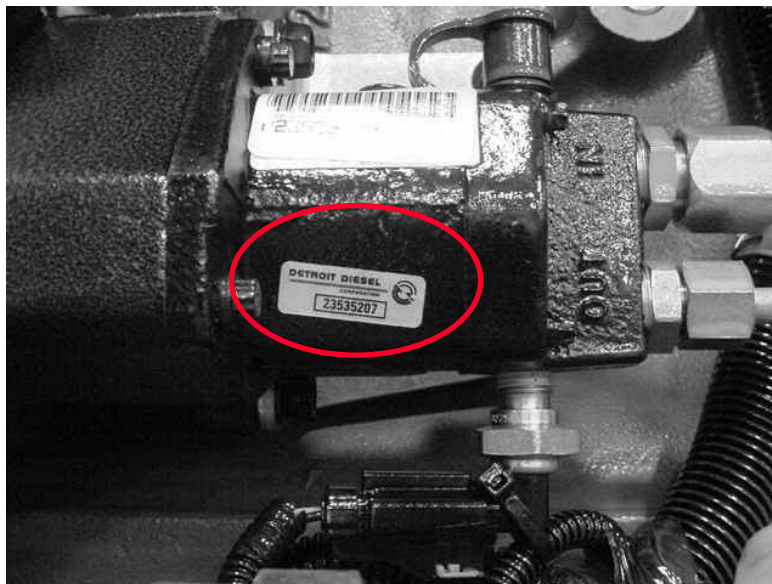

Figure 1 - New Fuel Pump (P/N: 23535207)
- New fuel pump (P/N: 23535207) replaces former fuel pump (P/N: 23532874). Visually, the two pumps differ only by the part number. See Figure 1 below.